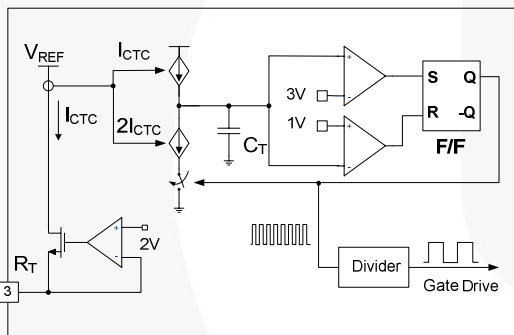

Figure 16. Current-Controlled Oscillator
**2. Internal Oscillator:** FLS-XS series employs a current-controlled oscillator, as shown in Figure 16. Internally, the voltage of the  $R_T$  pin is regulated at 2V and the charging / discharging current for the oscillator capacitor,  $C_T$ , is obtained by copying the current flowing out of the  $R_T$  pin ( $I_{CTC}$ ) using a current mirror. Therefore, the switching frequency increases as  $I_{CTC}$  increases.